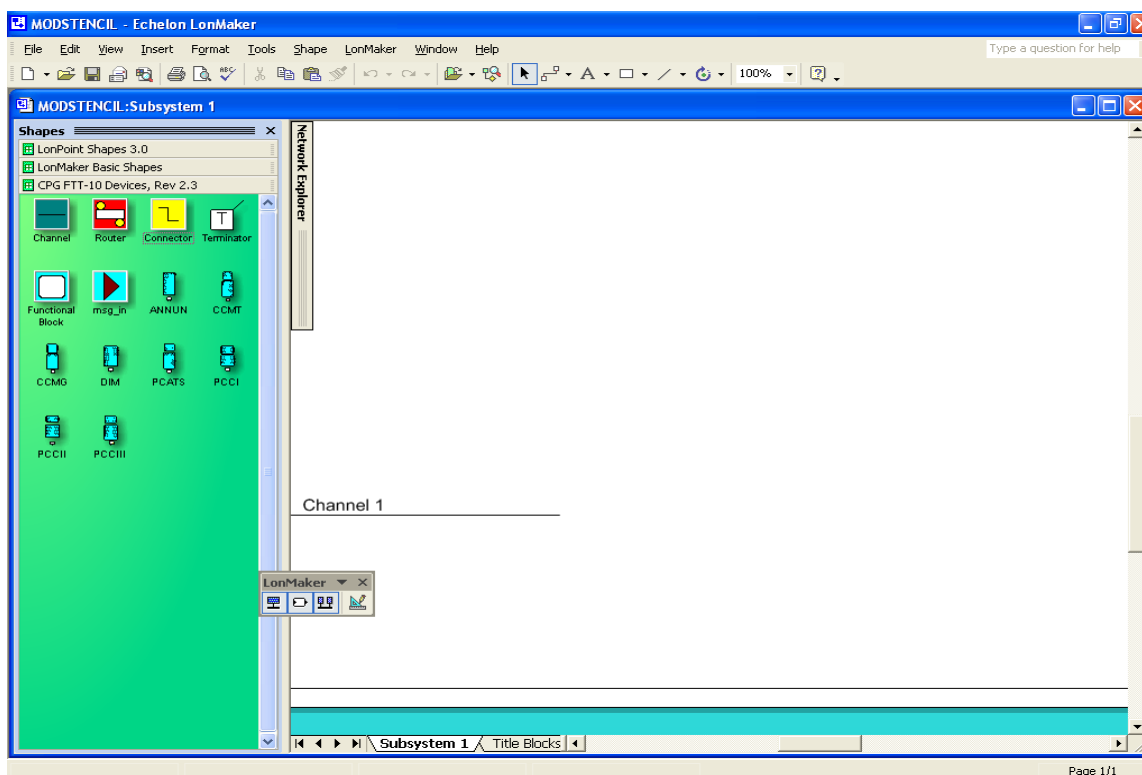

FIGURE 4-7. CPG DEVICES STENCIL, REV 2.3
2. Open the stencil (see Figures 4-7, 4-8, or 4-9).